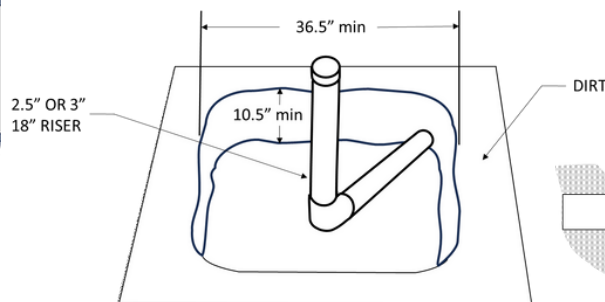

Figure 2
- a. Excavate the Trench:** Excavate an area in the pool floor to accommodate the drain. Ensure the excavated area is slightly wider and deeper than the drain to allow for proper leveling and positioning. (See Figure 2).
- a. Install Piping:** Lay the necessary plumbing (either 2.5" or 3") that will connect the drain to the pool's filtration system. Ensure the pipes are properly secured and aligned with the drain outlet. Using the same size pipe as the main suction line installed prior, create a riser by cutting a piece of pipe with a minimum length of 18". Use a level to ensure the riser is vertical on all sides. Glue in the riser and cap it. (See Figure 2).